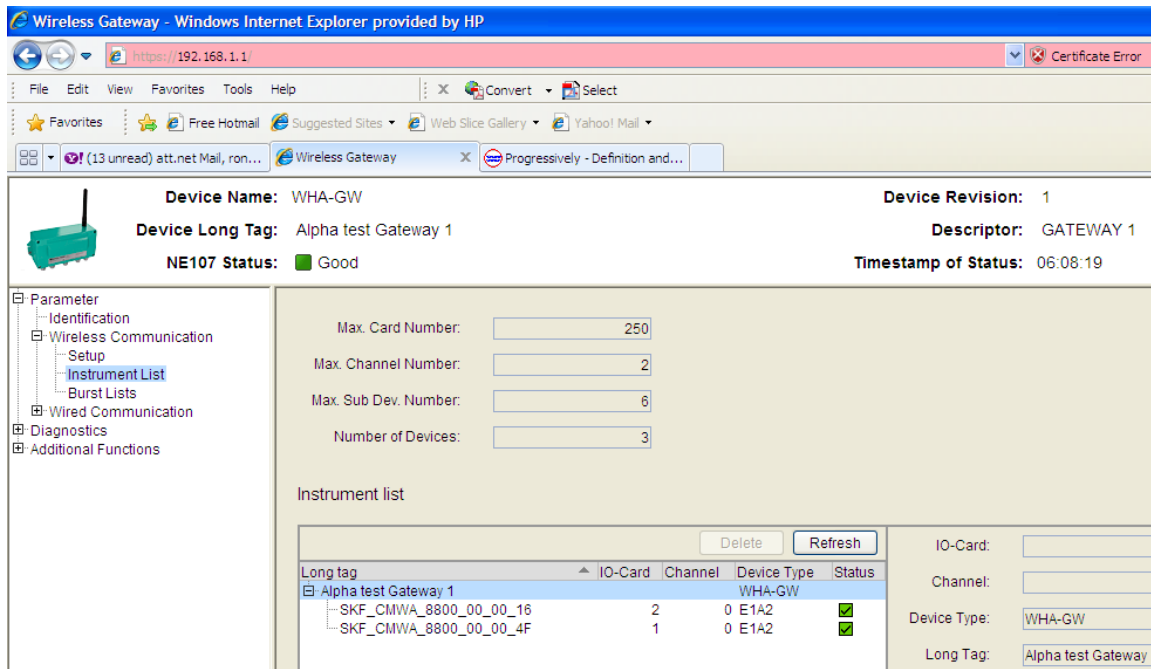

Figure 7. Waiting for the Joining Process to Complete.
- Your next step is to return to the Pepperl+Fuchs gateway configuration web page, and using the **Instrument List** menu option, wait for the joining process to complete for all the sensors. Depending on the number of sensors, it may take up to ten minutes for all the sensors to appear in the joining **Instrument List**, as shown in Figure 7.